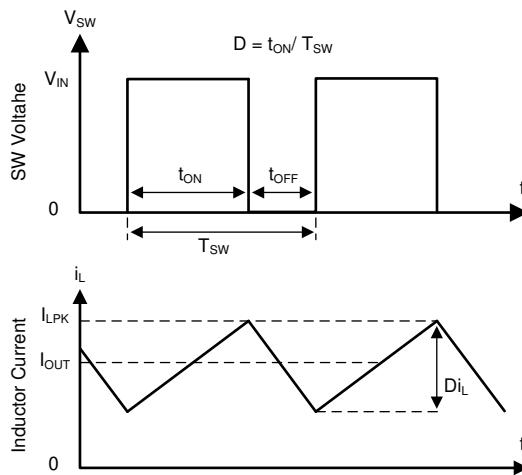

図 8-1. SW Node and Inductor Current Waveforms in Continuous Conduction Mode (CCM)
The following operation description of the LV3842 will refer to the セクション 8.2 and to the waveforms in 図 8-1. LV3842 is a step-down synchronous buck regulator with integrated high-side (HS) and low-side (LS) switches (synchronous rectifier). The LV3842 supplies a regulated output voltage by turning on the HS and LS NMOS switches with controlled duty cycle. During high-side switch ON time, the SW pin voltage swings up to approximately V_{IN} , and the inductor current i_L increases with linear slope $(V_{IN} - V_{OUT}) / L$. When the HS switch is turned off by the control logic, the LS switch is turned on after an anti-shoot-through dead time. Inductor current discharges through the low-side switch with a slope of $-V_{OUT} / L$. The control parameter of a buck converter is defined as Duty Cycle $D = t_{ON} / T_{SW}$, where t_{ON} is the high-side switch ON time and T_{SW} is the switching period. The regulator control loop maintains a constant output voltage by adjusting the duty cycle D. In an ideal Buck converter, where losses are ignored, D is proportional to the output voltage and inversely proportional to the input voltage: $D = V_{OUT} / V_{IN}$.